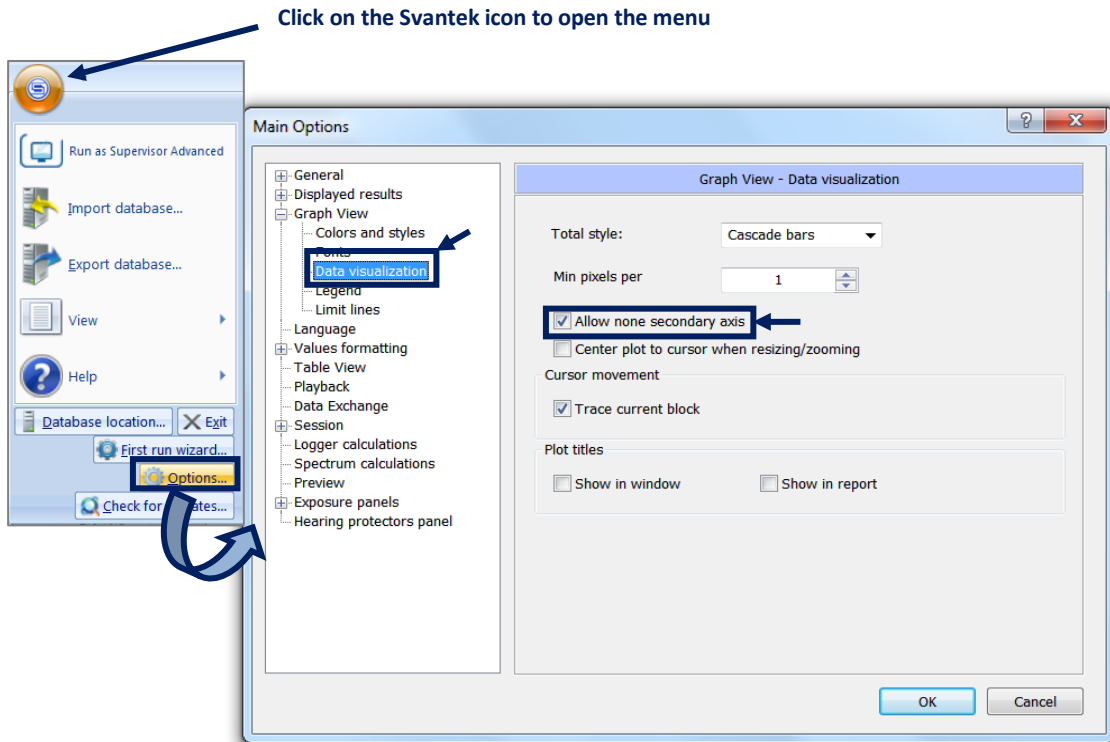

Fig. 4-45. Option which allows for hiding the secondary y-axis
**Note:** By default, the secondary y-axis is displayed in each Plot windows. To enable hiding it, use the "Allow none secondary axis" option in Main Options » Graph View » Data Visualization (Fig. 4-45).